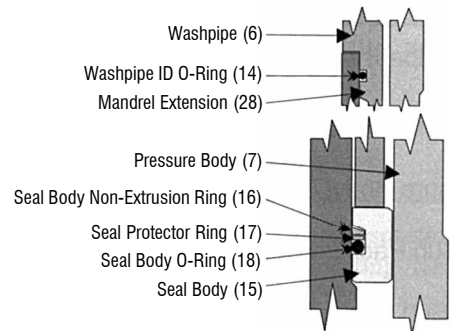

Figure 8-7: Seal Body Seal Installation
7. Seal Body (15): Install the Seal Body (15) O-Ring, Seal Body (15) Protector Ring, and the Non-Extrusion Ring into the ID of the Seal Body (15), as shown in Figure 8-7 below. Lay the Seal Body (15) aside in preparation for use later in this procedure.